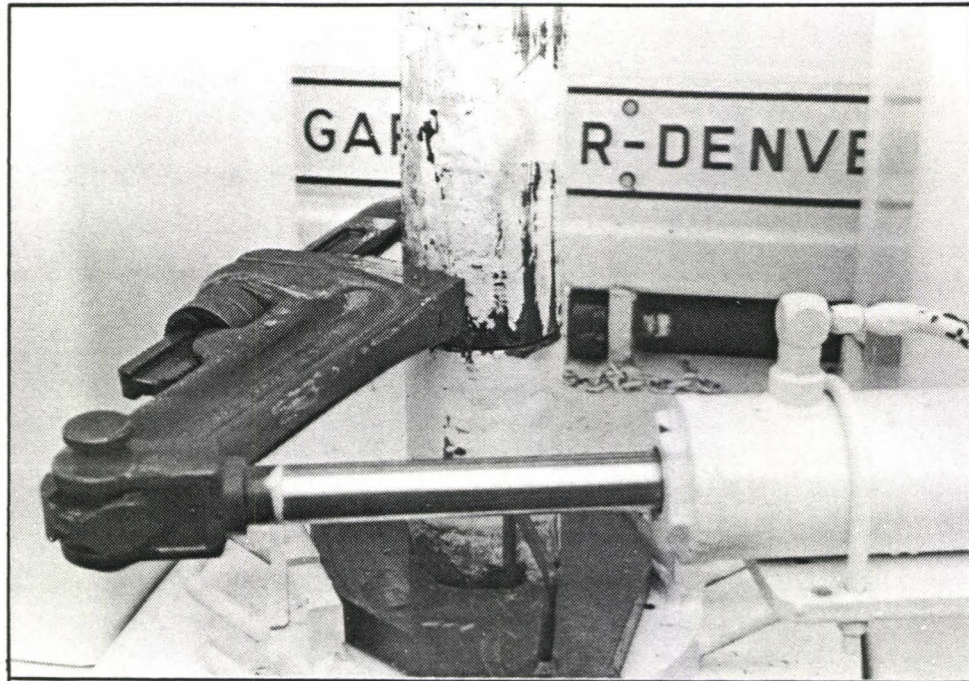

Figure 3.12.1c
1. Control the rate of rotation with ROTARY SPEED CONTROL (30) so excessive pulldown pressure will not result.
2. Control rate of drilling with the PULLDOWN PRESSURE CONTROL (15) and HOLDBACK PRESSURE CONTROL (17). In soft formations, reduce drilling rate to allow cleaning and to avoid bit plugging and sticking.
- f. Extend TONG CYLINDER with its control (41) and engage top sub (Figure 3.12.1c).